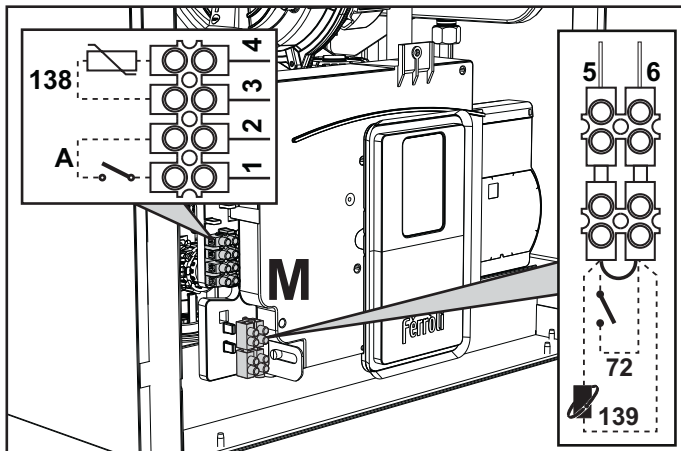
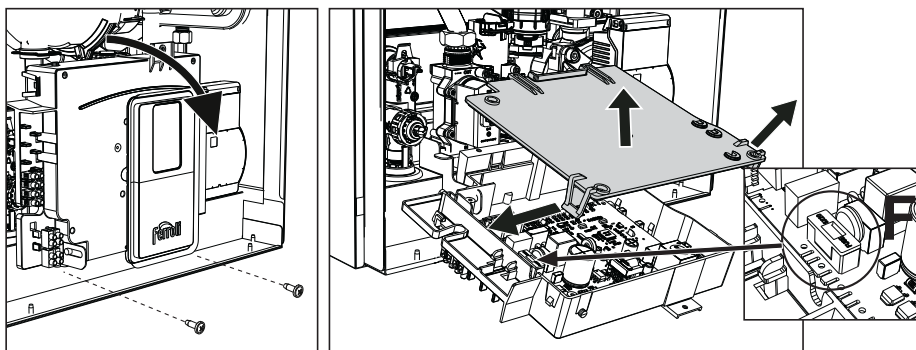

fig. 28
fig. 29
After removing the front panel ( \*\*\* 'Opening the front panel' on page 326 \*\*\* ) it is possible to access the terminal blocks (M) and the fuse (F) following the directions given below (fig. 28 and fig. 29). **The terminals indicated in fig. 28 must be with voltage-free contacts (not 230V).** The arrangement of the terminals for the various connections is also given in the wiring diagram in fig. 67.
### ON/OFF (A fig. 28) configuration